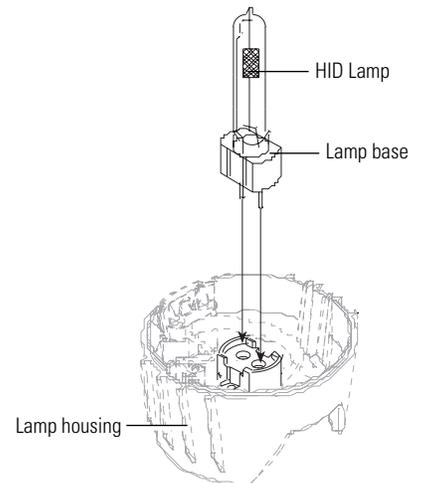

Figure 1
4. Insert lamp base into socket assembly as show in **Figure 1**.